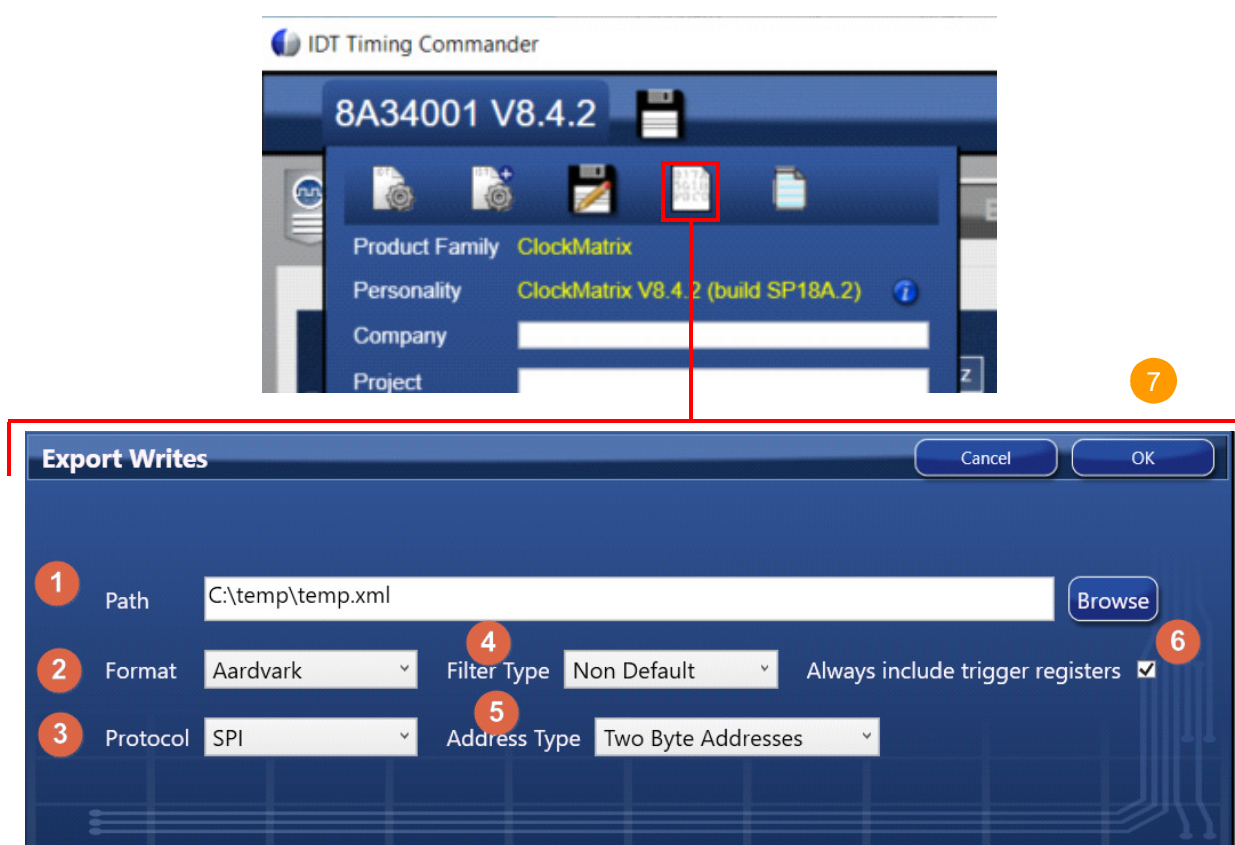

Figure 28. Export Button and Export Writes Window
- Use the Export button of the GUI (see Figure 28)